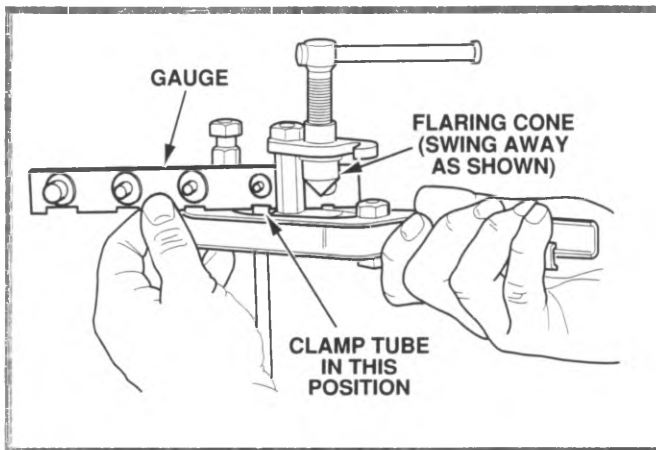

Figure 4-20, Position Tubing
7. Insert the tube into the opening between the two hexagon clamp blocks. Position the tube so that its end is level with the top of the gauge (figure 4-20). Clamp the tube in position by closing the small lever handle.